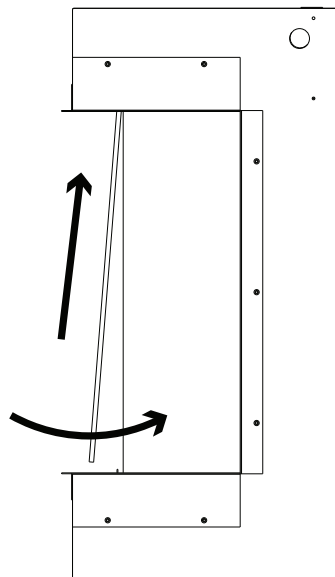

Figure 2.1
3. Swing the bottom edge of the front glass in to the unit. See Figure 2.1.